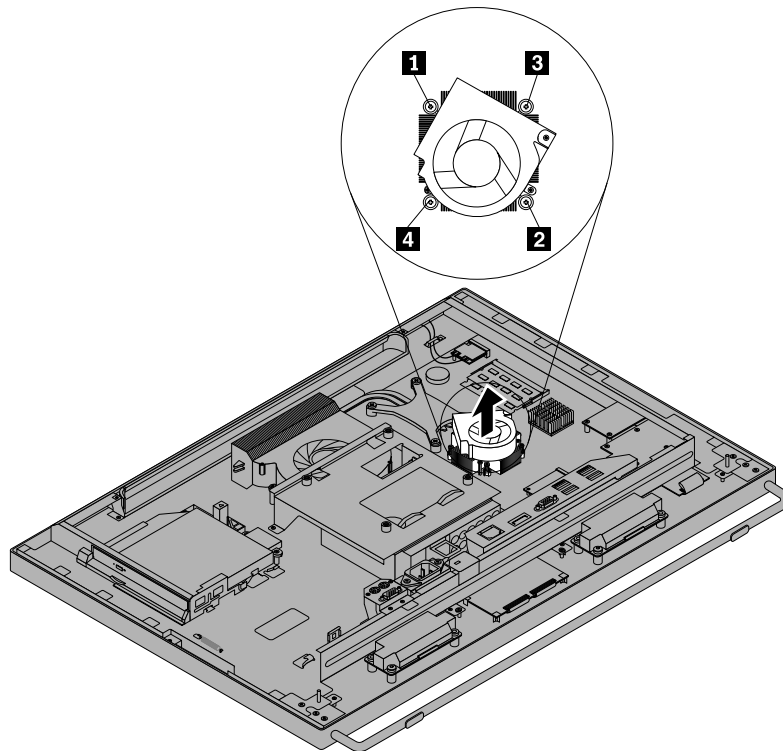

Figure 41. Removing the heat sink and fan assembly for GPU
9. Follow the following sequence to install the four screws to secure the heat sink and fan assembly for GPU, as shown in Figure 41 “Removing the heat sink and fan assembly for GPU” on page 63.